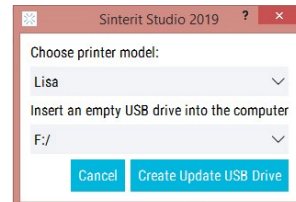

Fig. 4.1 Creating update files.
2. Choose the printer model you want to update (Fig. 4.1).
3. Insert the USB flash drive into the USB port on your computer, then click Create Update USB Drive. The process may take a few minutes(Fig. 4.1).